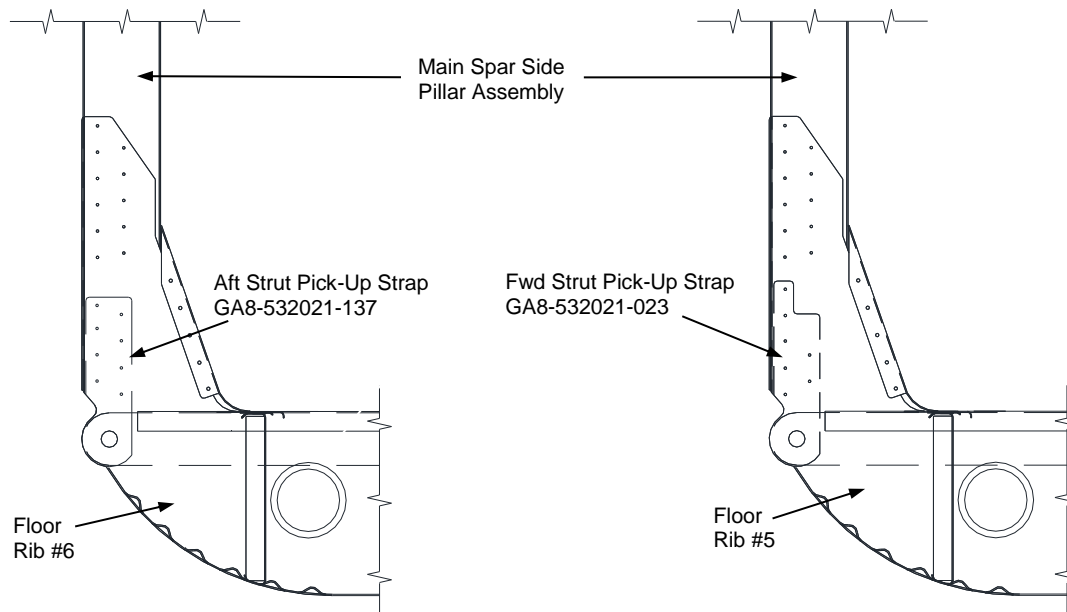

Figure 24: Strut Pick-up Strap locations
- 1) Remove the Fwd and Aft Strut Pick-Up Straps (GA8-532021-023 and -137) (See Figure 24) and retain.